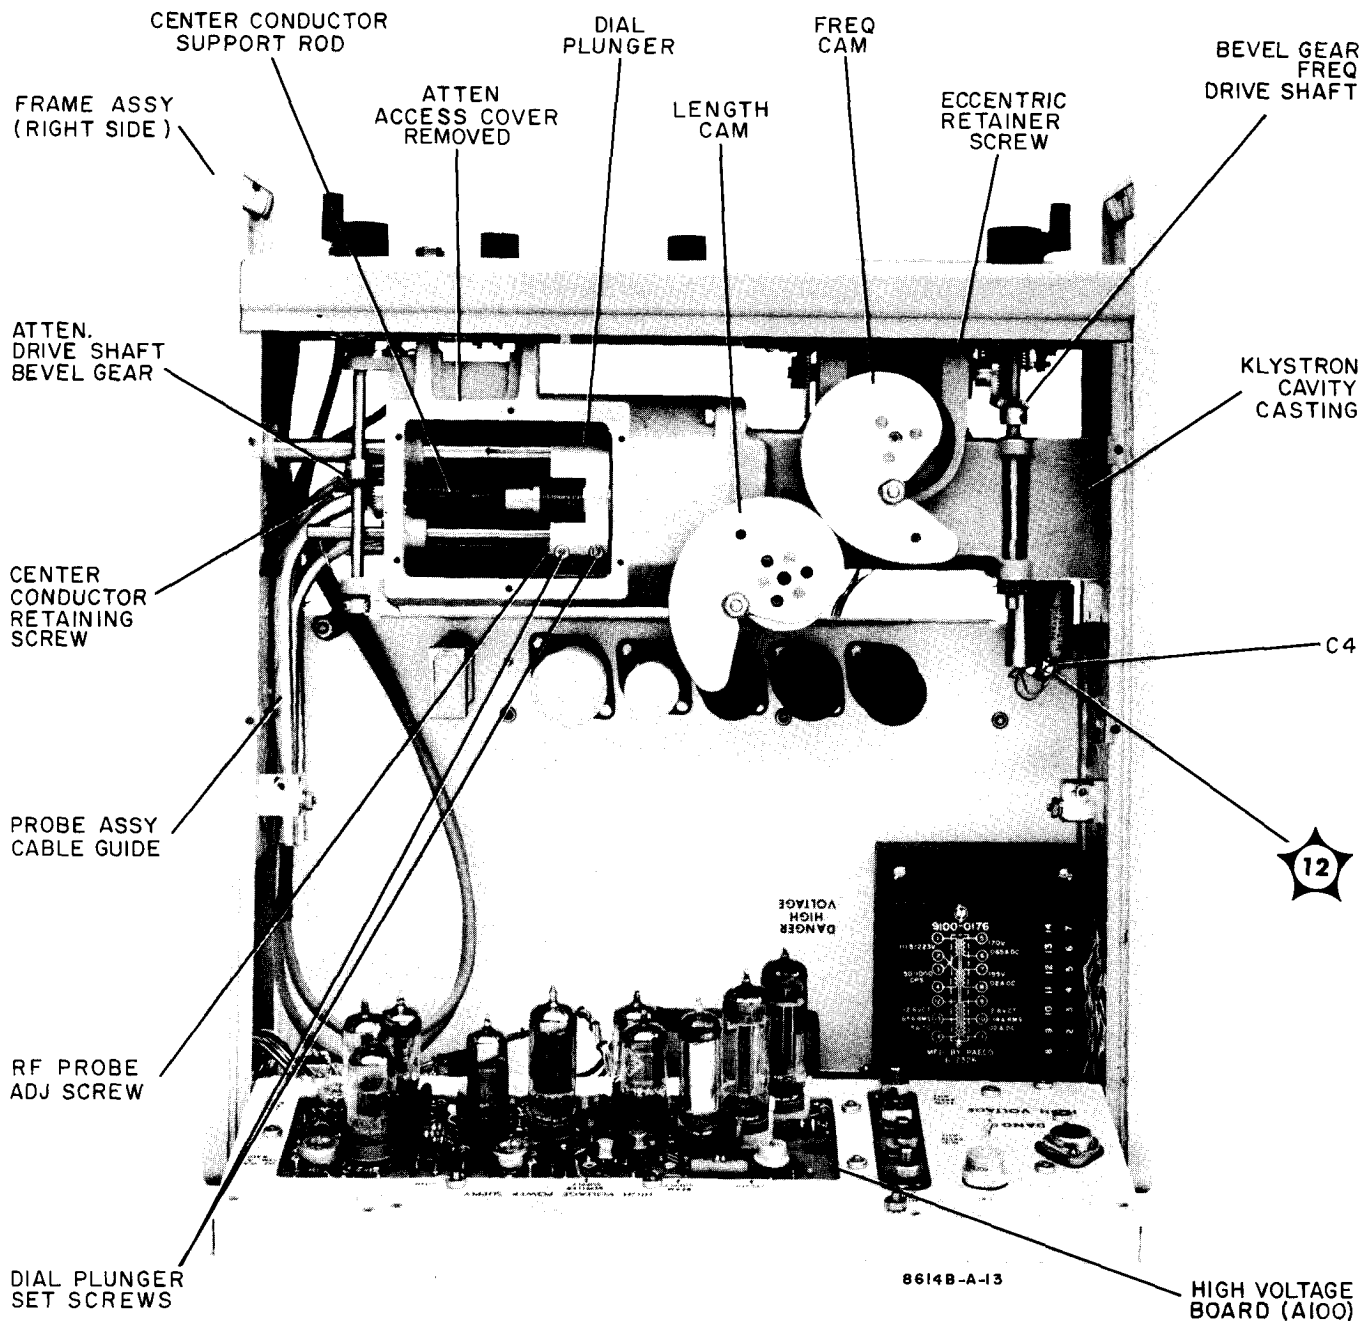

Figure 5-8. Model 8614B Top View, Cover Removed
- b. Remove top cover and attenuator access cover (see Figure 5-8).
- e. Remove retaining screw from defective probe in klystron cavity casting and remove from casting (see Figure 5-8).
- c. Turn FREQUENCY (MC) to approximately the middle of the frequency band.
- d. Orient Length Cam to Frequency Cam as shown in Figure 5-8.
a. Connect a Clip-On Milliammeter, such as  Model 428A, to wire on center feed-through capacitor, C4 (wht/orn/vio wire, see Figure 5-8).
b. Connect crystal detector/oscilloscope combination to VARIABLE RF OUTPUT and set FREQUENCY (MC) to 1650 MC (3050 MC for 8616B).
f. If clamping action referred to in step c occurs before VARIABLE RF OUTPUT begins to decrease and before beam current exceeds 28 ma, go to next procedure. If clamping action does not occur before VARIABLE RF OUTPUT begins to decrease or before beam current exceeds 28 ma, readjust R420 as in step d above. Using a DC Voltmeter, such as the Model 405B with a floating input, measure voltage difference between klystron cathode and control grid (see Figure 5-8). Replace CR404 with a zener diode whose breakdown voltage is as close to, but slightly less than, the measured voltage minus 0.6 volts (see Figure 5-4).
c. Refer to graph, Figure 5-10. The horizontal axis represents the measured frequency change from step b, the vertical axis indicates the dial corrective setting. For example, if the difference between dial settings (step b) is 1354 Mc, the corrective setting for the dial as found on the graph is 990 Mc. To make correction, set frequency dial to 1000 Mc, loosen the two setscrews that clamp dial plunger to rack, hold dial plunger stationary, and set dial to 990 Mc. Tighten two setscrews (see Figure 5-8).
i. If frequency dial reading errors are greater than ± 5 Mc (± 10 Mc for 8616B), shifting the dial may bring all errors within specification. If shifting dial will not sufficiently correct errors, it may be necessary to shift position of center conductor support rod (see Figure 5-8). The center conductor is notched at end closest to right side of instrument and may be loosened and then adjusted "in" or "out" of klystron cavity. Notch or scratch center conductor rod so that original position may always be known. If overall frequency error was positive, adjust center conductor toward right side of instrument. If overall error was negative, adjust center conductor toward left side of instrument. When adjusting center conductor position, never change by more than about 20 thousandths of an inch at a time.